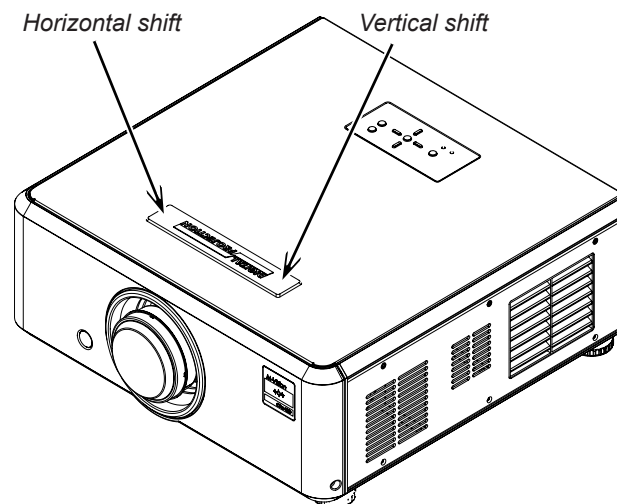

Fig. 1 Location of adjustment access holes
1. To reveal the adjustment access holes (**Fig. 1**), rotate the Digital Projection badge on top of the projector.